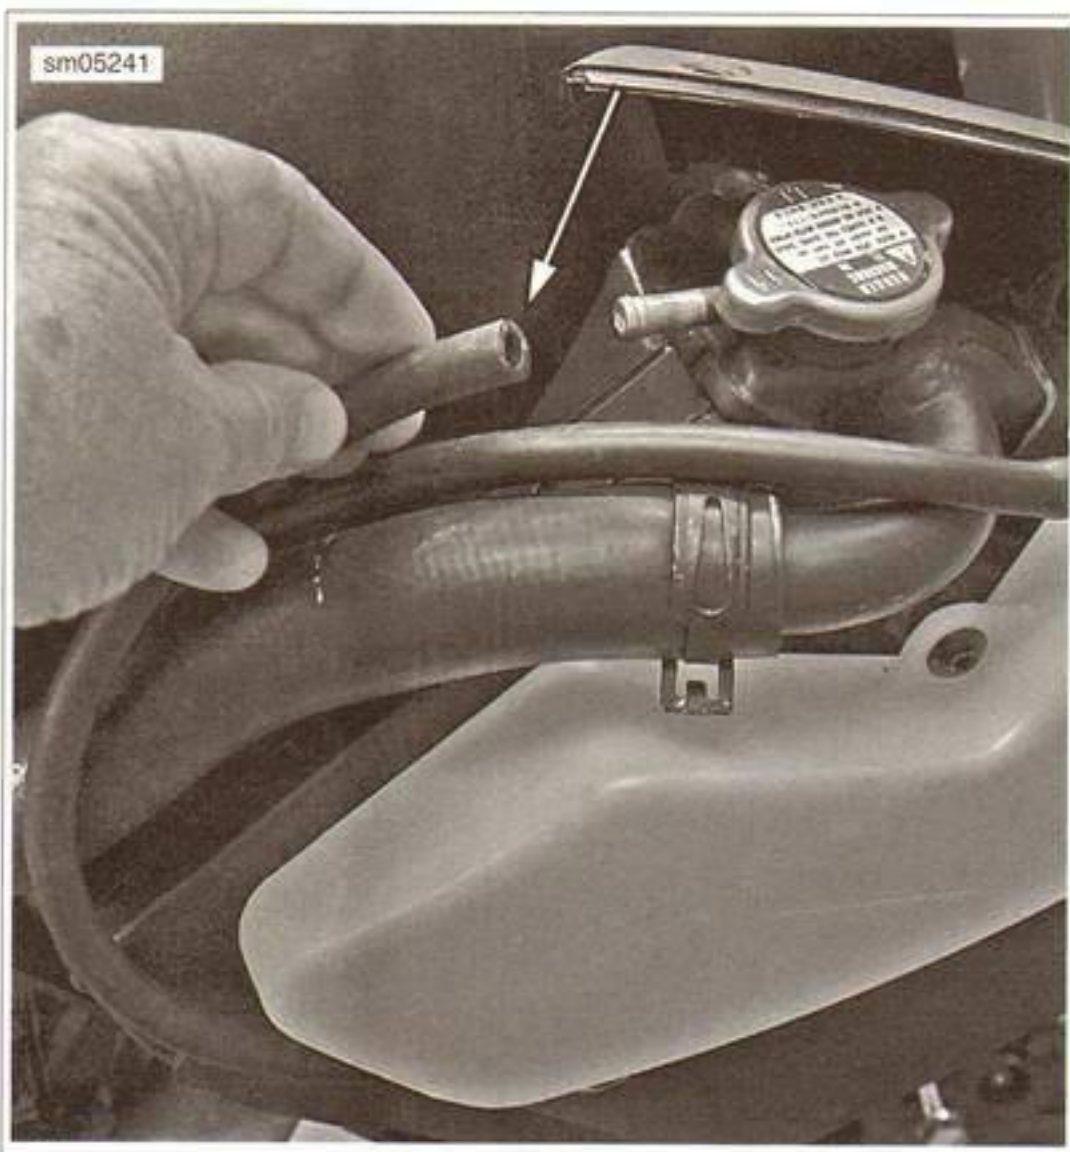

Figure 5-8. Overflow Bottle Hose
6. See Figure 5-8. Remove and direct the hose from the radiator filler neck to the pan to drain the overflow bottle.